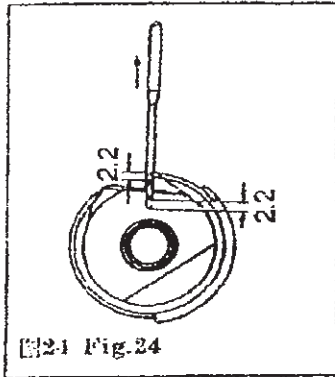

图24 Fig.24
- (1) 旋梭的勾线尖，应与机针的中心线一致；
- (2) 在此位置时，勾线尖应高于机针孔上边 2毫米 (图 24)。
- (1) Looping point of rotary hook should be in with the mid-line of needle;
- (2) Looping point should be 2mm higher than the hole of needle (Fig.24)
The top of feed dogs should be 0.6~1mm higher than the level of needle plate when the feed dogs rise in the highest position. If sewing special heavy or light materials, the gauge of feed dogs should be regulated. When adjusting, first loosen the fixed screw 4 (Fig.24) of lifting belt crank.